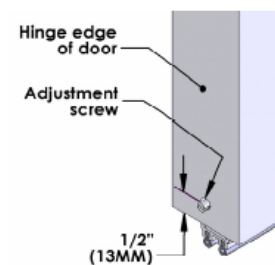

Fig. 3
3. Drill a 1/4" hole in the center of the hinge edge of the door for the adjustment screw, 1/2" from the bottom of the door. (see fig. 3)